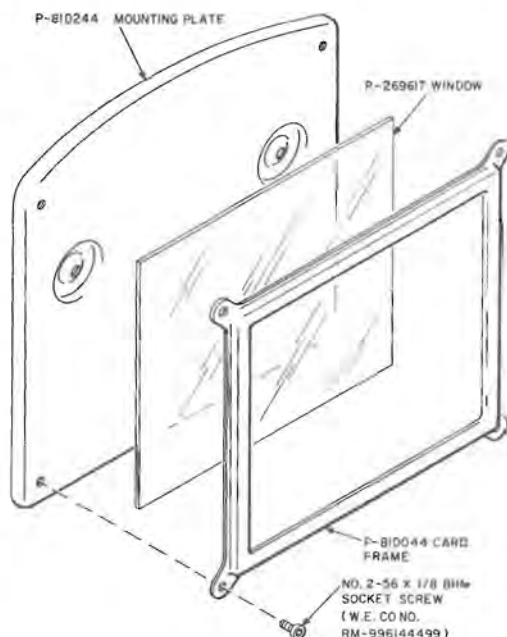

Fig. 32—50K-44 Apparatus Blank
- (1) Remove upper housing.
- (2) Remove three No. 4-36 by 9/32 RHM screws.
- (3) Install new apparatus blank using reverse procedure.
- 6.48 Replace damaged or missing screws and plastic windows per Fig. 32.